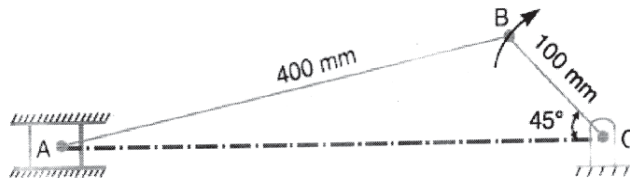

Fig.2
- Q2) a)** Locate all the instantaneous centres of the slider crank mechanism as shown in Fig. 2 The lengths of crank OB and connecting rod AB are 100 mm and 400mm respectively. If the crank rotates clockwise with an angular velocity of 10rad/s, find: **[10]**